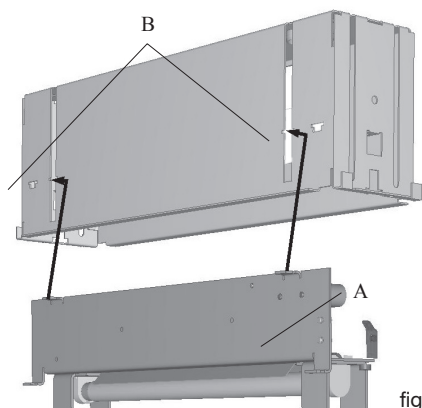
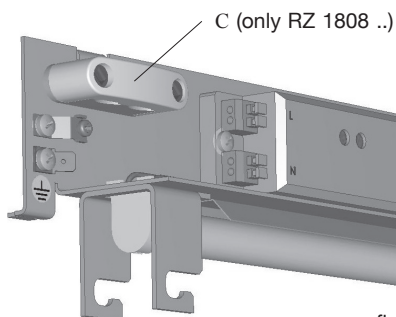

fig. 13
fig. 14
Fasten the luminaire chassis (A) accd. fig. 13 with the guide rib into the cutout (B). Connect the mains cable to the terminals (L) and (N) as well as (PE). Fix the cable with the cable clamp (only RZ 1808.., C, fig. 14).